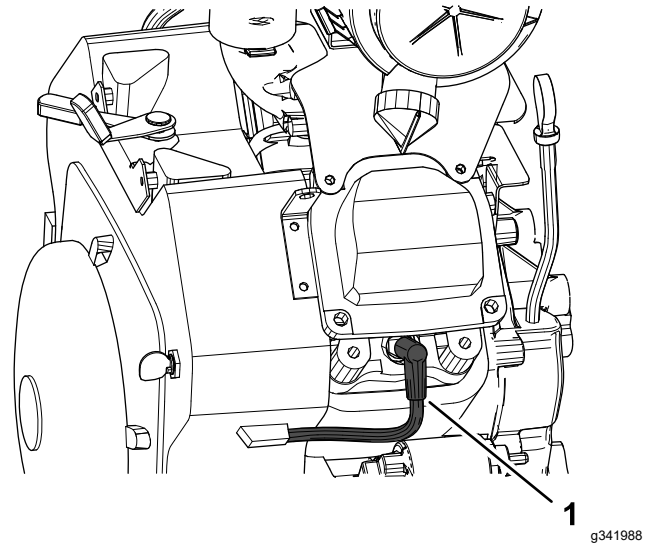

Figure 35
2. Clean the area around the spark plugs (Figure 35).
3. Disconnect the spark-plug wires from the spark plugs (Figure 35).